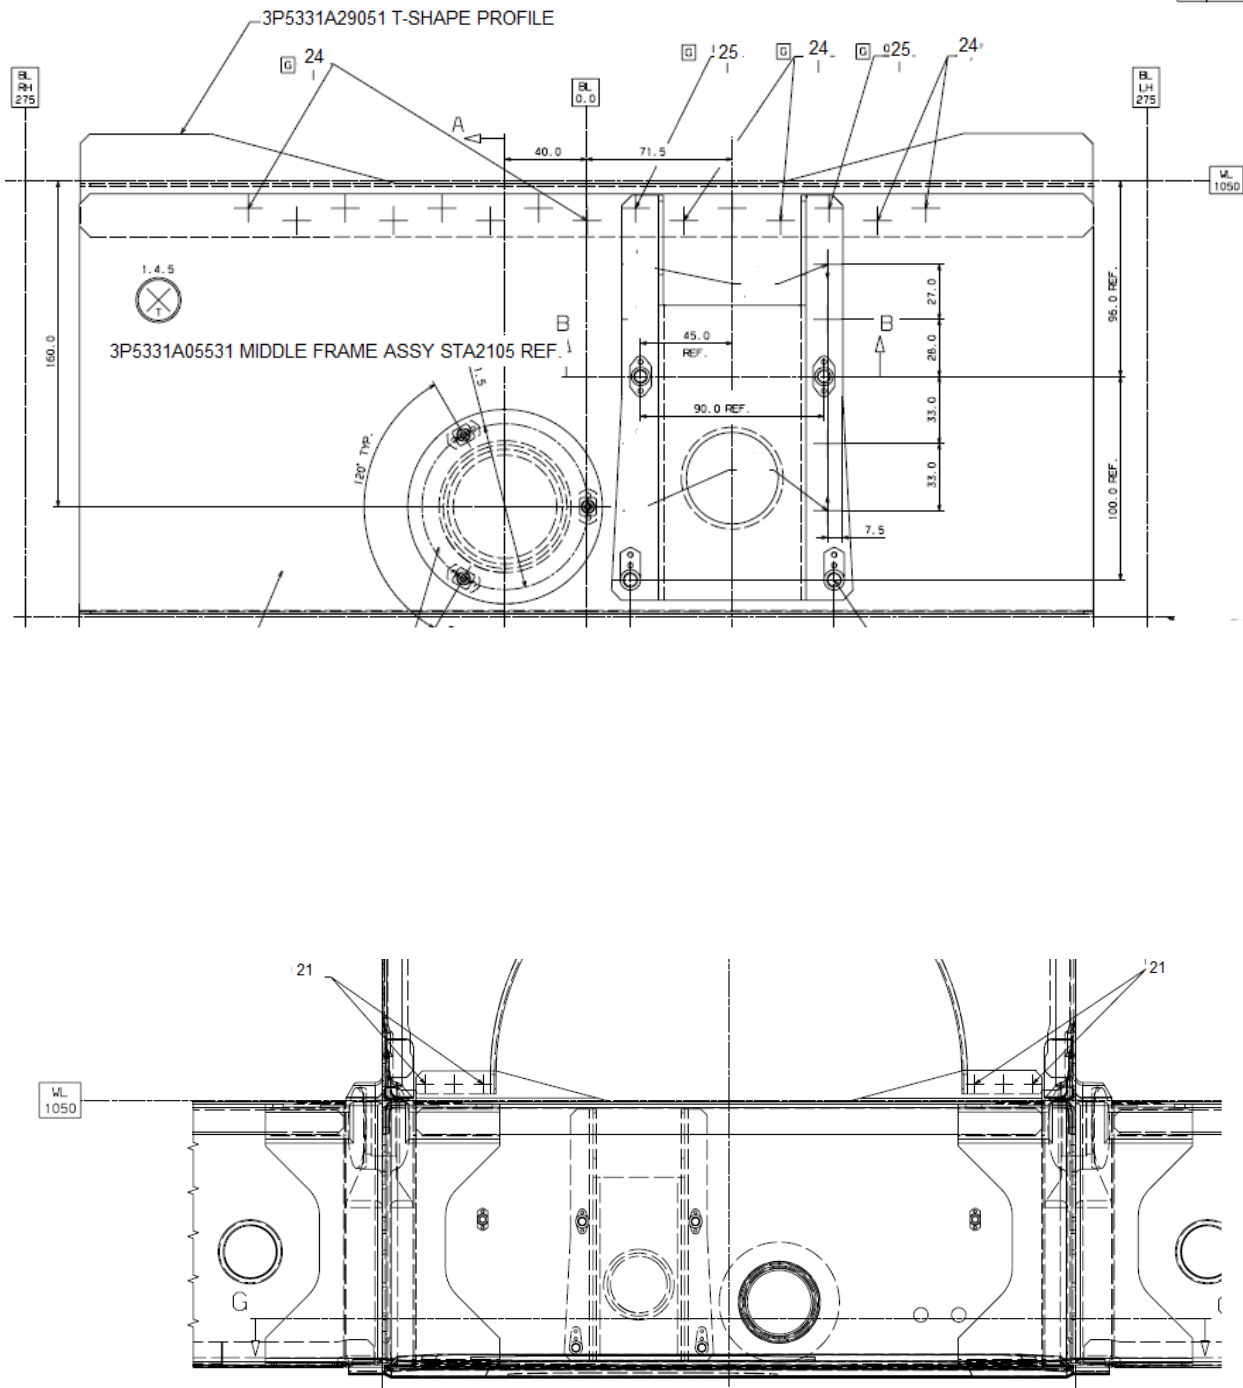

Figure 2 - T shape profile 3P5331A29051
3. Remove the T shape profile p/n 3P5331A29051 from Middle Frame Assy STA2105 as per figure 2.
17. Install Middle Frame Assy STA2105 p/n 3P5331A05531 & T shape profile p/n 3P5331A29051 as per figures 2 & 3.